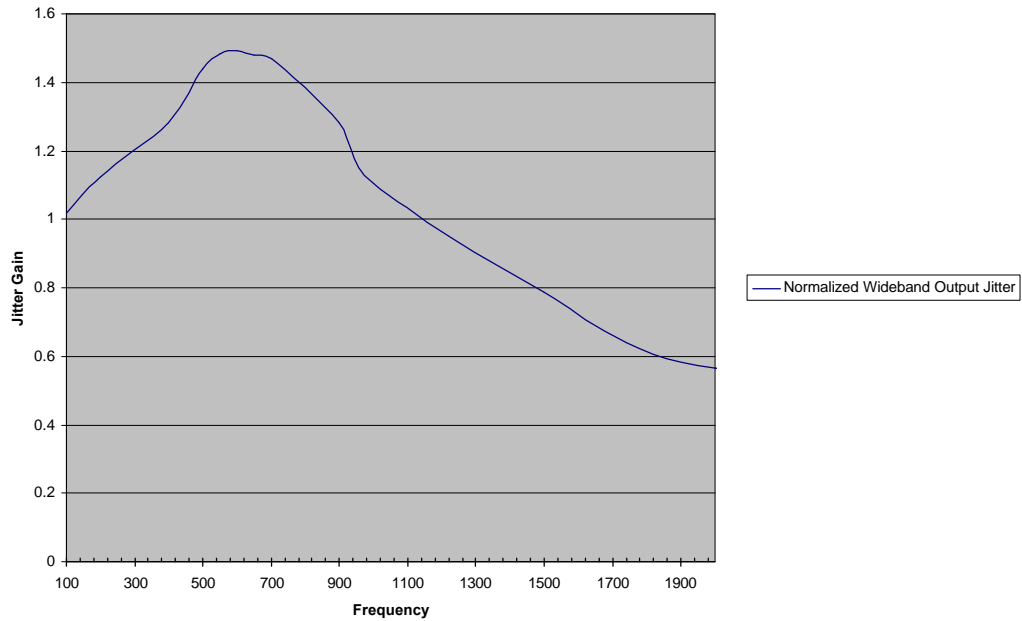
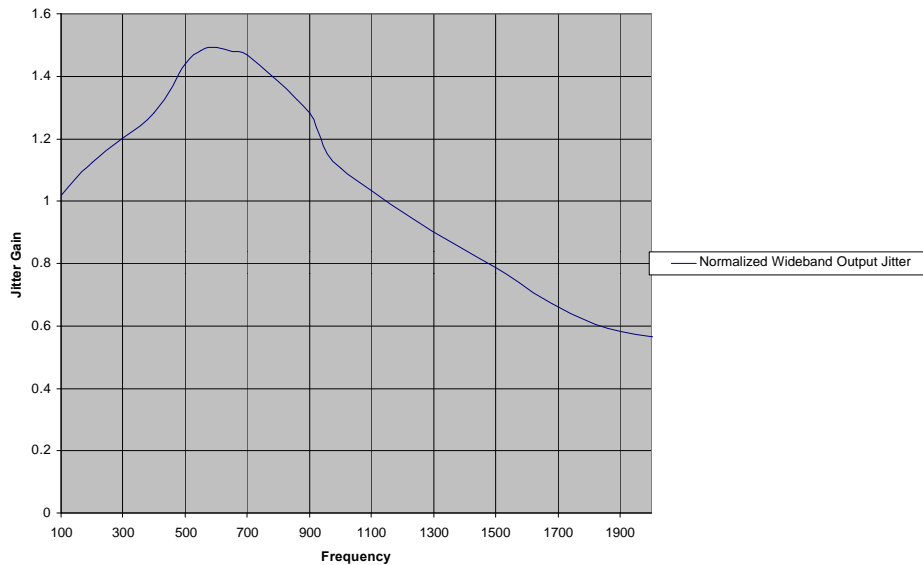

Figure 25: Jitter Transfer Characteristics of the XRT8001 WAN Clock for 3.3V Applications
Figure 26: Jitter Transfer Characteristics of the XRT8001 WAN Clock for 5V Applications
The “Jitter Transfer Characteristics” of the XRT8001 are presented in Figure 25 (for 3.3V applications) and Figure 26 (for 5.0V applications).
10.1 Reading Figures 25 and 26
Figures 25 and 26 are linear (as opposed to logarithmic) plots. The Jitter Gain is computed via the following equation.
Figures 25 and 26 indicate that for Jitter Frequencies, ranging between 100Hz and 1100Hz, the XRT8001 amplifies Jitter. Further, these figures also indicate that for Jitter Frequencies greater than 1100Hz, that the XRT8001 attenuates Jitter.
10.2 Test Conditions for Measurements associated with Figures 25 and 26